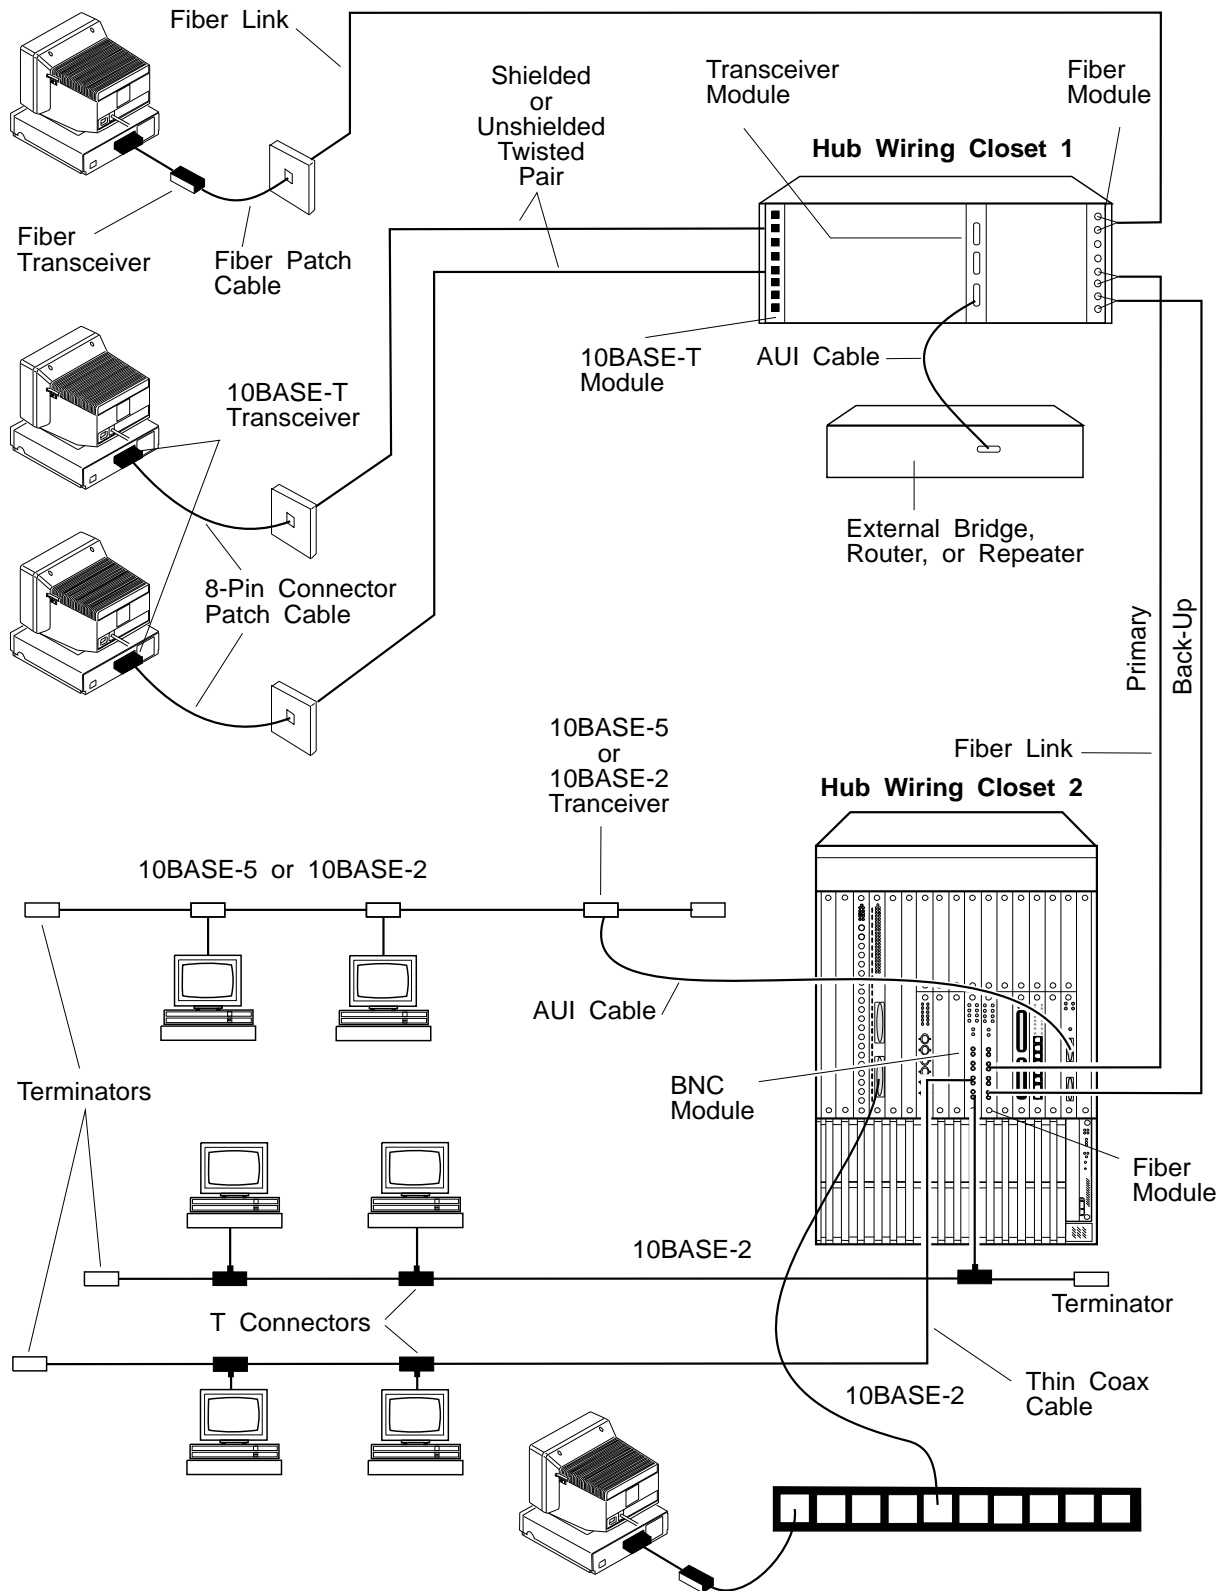

Figure 2. Overview of the Network Layout
The IBM 8250 and 8260 have many features and accessories to build sophisticated Ethernet networks or to expand networks that are already installed. To illustrate this, Figure 2 on page 10 shows one possible usage of 8250 features to build a complex Ethernet network. See Appendix B, "Cabling and Offerings" on page 205 for references to connection pin layouts and IBM cables.
Note: When using a 10BASE-T module with a TELCO connector, only unshielded cabling is allowed. Also, a fanout patch panel is necessary to split the various lobe cables (not shown in Figure 2 on page 10)
Note: For additional reliability, a workstation can be linked using two fiber links, running from the office area to one or multiple hubs. The fault tolerant transceiver (not shown in Figure 2 on page 10) is used for that purpose. It connects two fiber links on one end, and the AUI cable on the other end.
- Here, the BNC module connects two 10BASE-2 segments, to form a single Ethernet network (single broadcast space). The BNC module also acts as a repeater to restore the signal. In Figure 2 on page 10, the ports on the BNC module are used in two different ways:
In the above example, we assumed the use of fiber modules and transceivers. Nonetheless, the configuration shown in Figure 2 on page 10, remains valid when we substitute 10BASE-FL (or FOIRL) modules for fiber modules and 10BASE-FL (or FOIRL) transceivers to fiber transceivers.